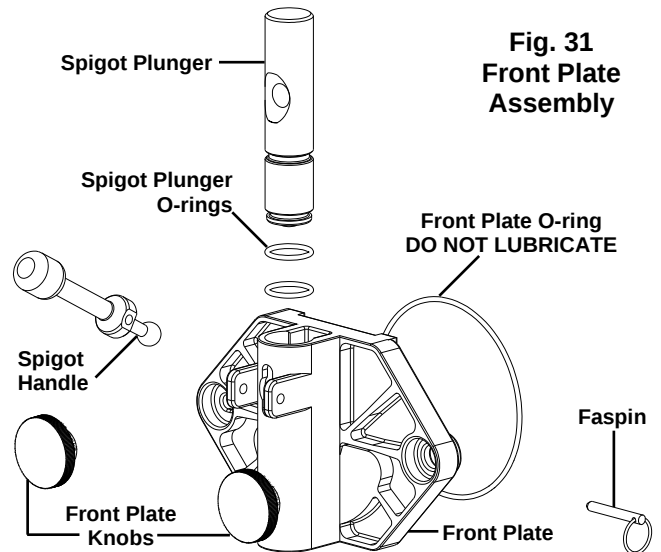

Fig. 31
- b. Slide the lubricated spigot plunger into the front plate (Fig. 31) making certain that the spigot handle slot is aligned to the front.